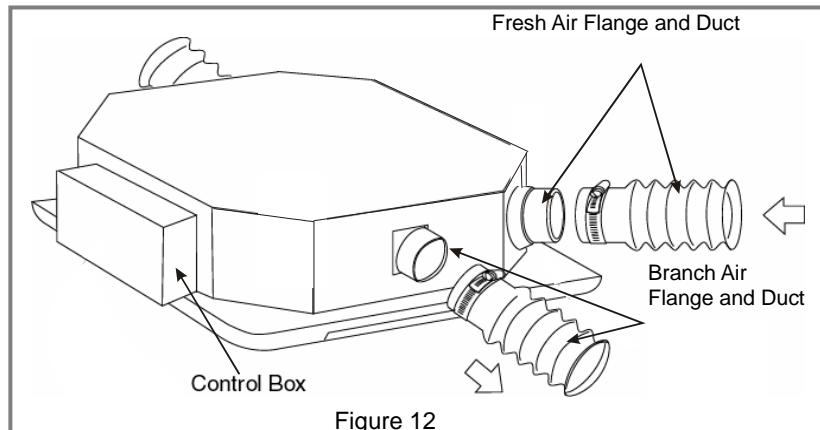

Figure 12
1. The side opening allows separate ductwork to be installed for outside air intake and branch ducting. (Figure 12).